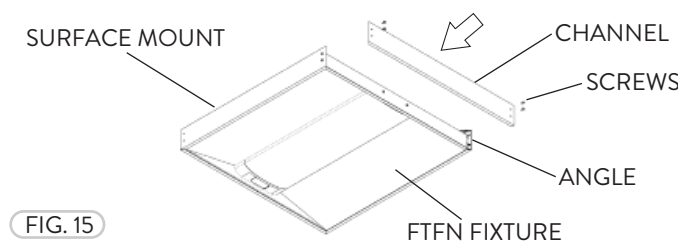

FIG. 15
- 4 Once the FTFN fixture is properly installed on the Surface Mount, fasten the last two Angles and side Channel to completely enclose the FTFN fixture (Fig. 15).